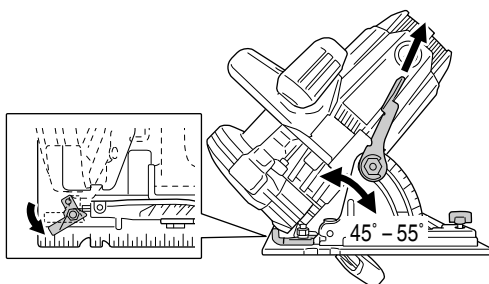

Fig. 9
If you use inclination angle of over 45°, as shown in Fig. 9 move the lever (A) to outside, the saw blade may be inclined to a maximum angle of 55° in relation to the base.